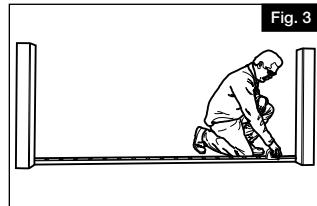

Fig. 3
- a. Place the bottom rail (B) across the opening where the railing is to be installed (Fig. 3). Measure from the mounting surface to the first baluster hole on each end and adjust until these dimensions are equal.